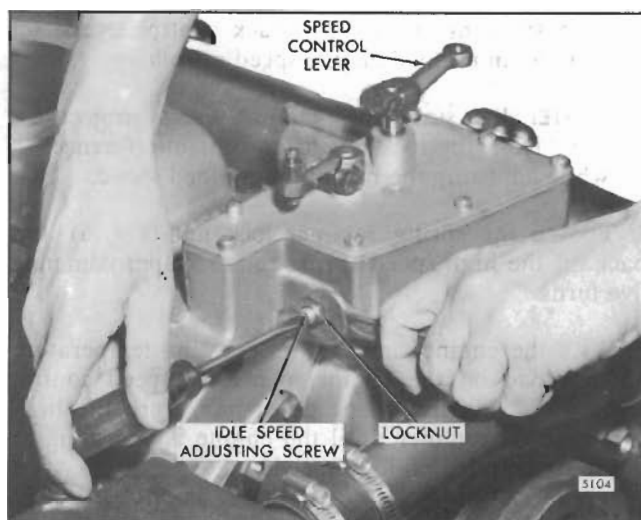

Fig. 8 - Adjusting Buffer Screw
1. With the engine running at normal operating temperature, turn the buffer screw (Fig. 8) in so it contacts the differential lever as lightly as possible and still eliminates engine roll.